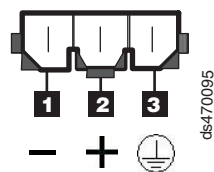

Figure 51. The dc power supply connector - PIN positions
2. Connect the dc power cable to the power supply. See Figure 51 for the dc power supply connector PIN positions.